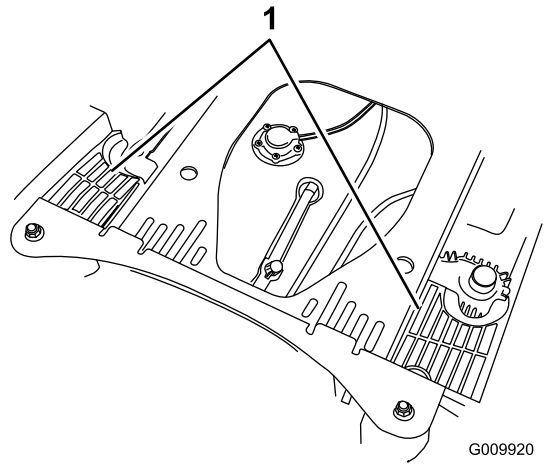

**Figure 77**
Before each use remove any buildup of grass, dirt, or other debris from the engine screen. This will help ensure adequate cooling and correct engine speed and will reduce the possibility of overheating and mechanical damage to the engine (Figure 77).
3. Remove the air intake screen, recoil starter, and fan housing (Figure 77).
5. Install air intake screen, recoil starter, and fan housing (Figure 77).